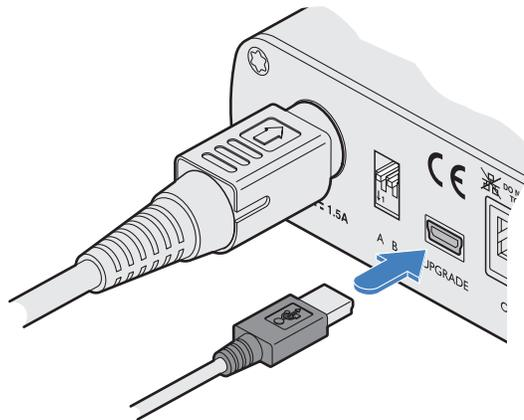

Figure 4-1. Connecting the mini USB cable to the rear panel.
3. Connect the local module to your computer using the mini USB socket on the rear panel and a USB type-A to mini-B cable (not supplied). See Figure 4-1.